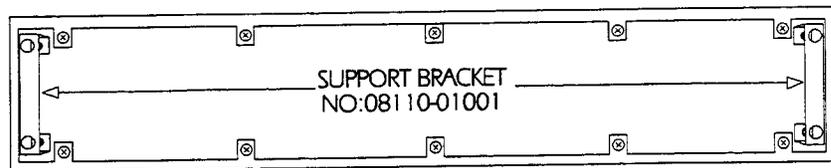

Figure 5-5. Rear Panel Showing Case Fixing Screws
4. Stand the instrument on the rear support brackets (shown in Figure 5-5) and slide the case back from the front panel by a firm movement